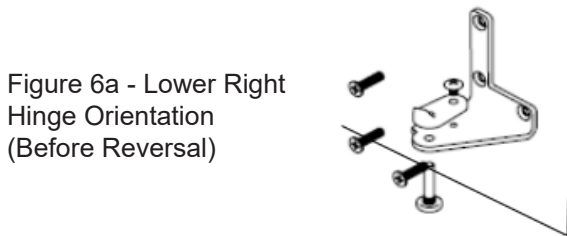

Figure 6a - Lower Right Hinge Orientation (Before Reversal)
3. Once the Hinges are removed from the unit, using a Phillips Screwdriver, remove the Bushing Screw and Hinge Pin Screw and save for later steps (Fig. 6a).